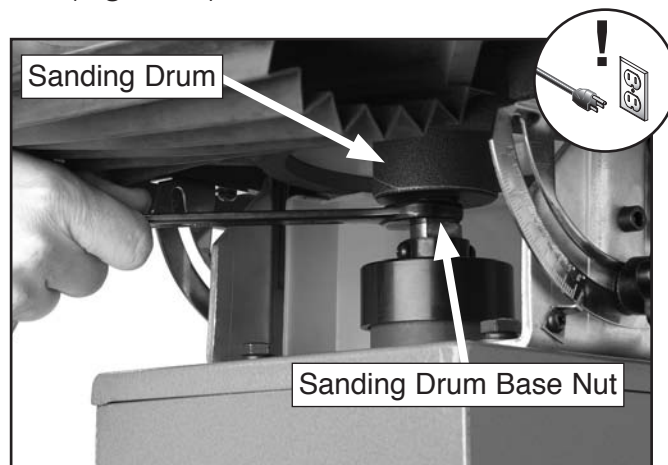

Figure 29. Securing spindle.
2. Use a 19mm wrench on the sanding drum base nut to keep the spindle from turning (**Figure 29**).